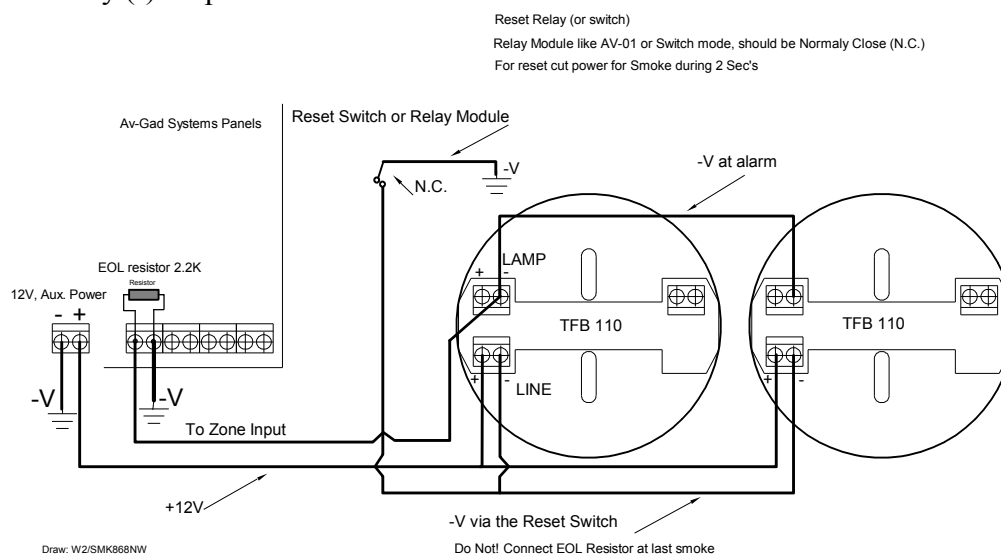

Figure 6: TF Smoke Detectors base smoke wiring to Av-Gad panels
- To reset AV-2008, AV-2016 Dublo smoke detector program the SLO 1 output to drive -V while holding-down key 9 (a momentary switch or relay that disconnects power during 2-3 seconds to smoke detector after a smoke alarm). Refer to smoke wiring diagram figure 6.